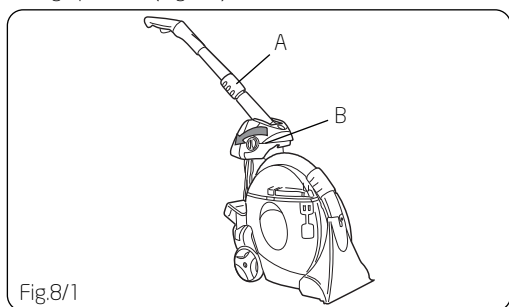

Fig.8/1
Rotate knob (B) backwards to drop the upper handle into storage position (Fig.8/1).